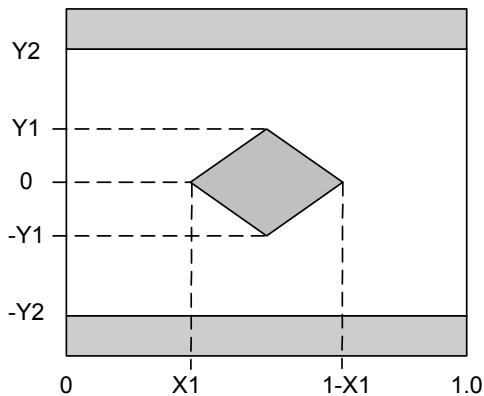

Figure 6.1.2.
- 5: Eye Mask is defined in Figure 6.1.2